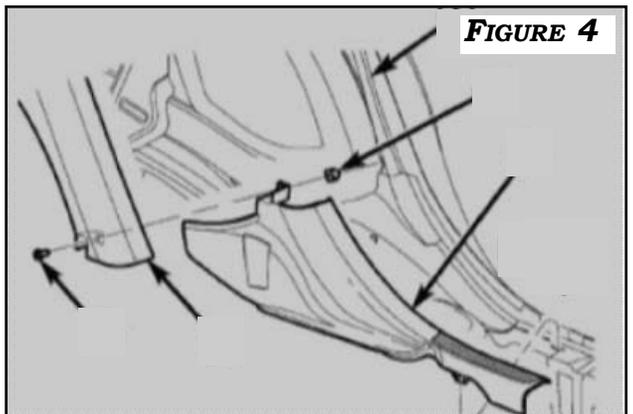

FIGURE 4
4. DISENGAGE CLIPS TO REMOVE THE REAR DOOR SCUFF PLATE. **FIGURE 4**. REMOVE CARPET FROM TRUNK AREA AND REMOVE LICENSE PLATE LIGHT ASSEMBLY.